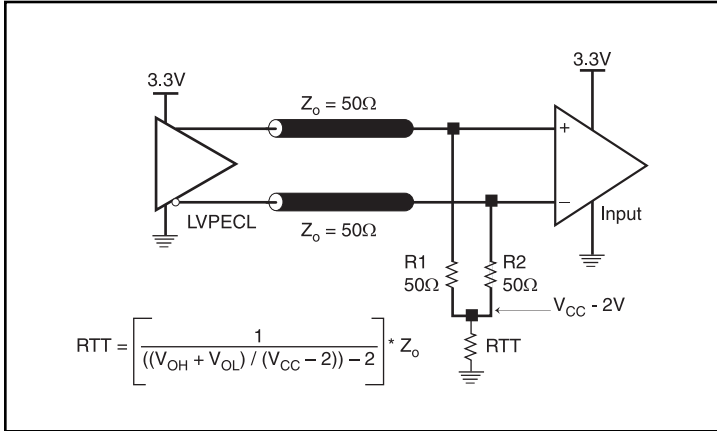
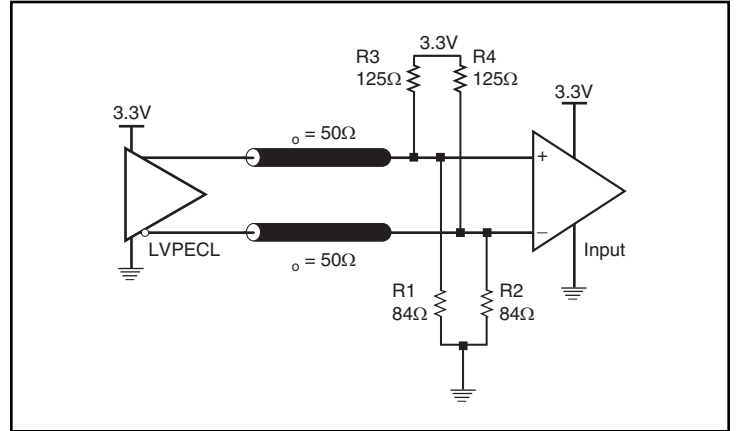

Figure 5A. 3.3V LVPECL Output Termination
Figure 5B. 3.3V LVPECL Output Termination
*Figure 5A* and *Figure 5B* show two different layouts which are recommended only as guidelines. Other suitable clock layouts may exist and it would be recommended that the board designers simulate to guarantee compatibility across all printed circuit and clock component process variations.